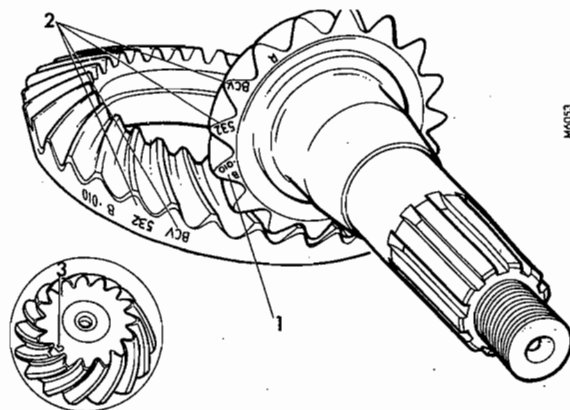

FIG. 3 CROWN WHEEL AND PINION MARKINGS
1. Fit pinion assembly and nominal 0.040 in shim pack (44) in axle casing.
2. Examine end face of pinion to determine the setting figure, this being an etched number representing thousandths of an inch, Fig. 3.